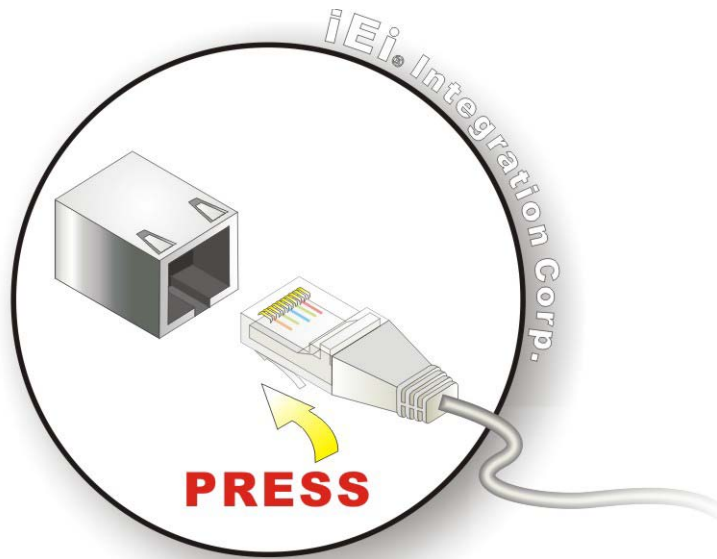

Figure 4-10: LAN Connection
Step 2: **Align the connector.** Align the RJ-45 connector on the LAN cable with the RJ-45 connectors on the NANO-KBN-i1. See **Figure 4-10**.